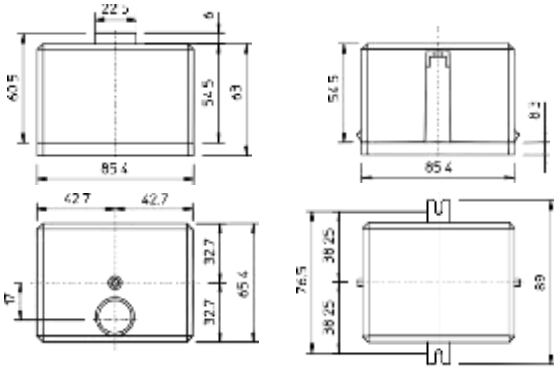

Fig.1
- The possibility of using casings without reset push-button is restricted to the control units prearranged for remote reset. Fig.1 shows the overall dimensions of the units.